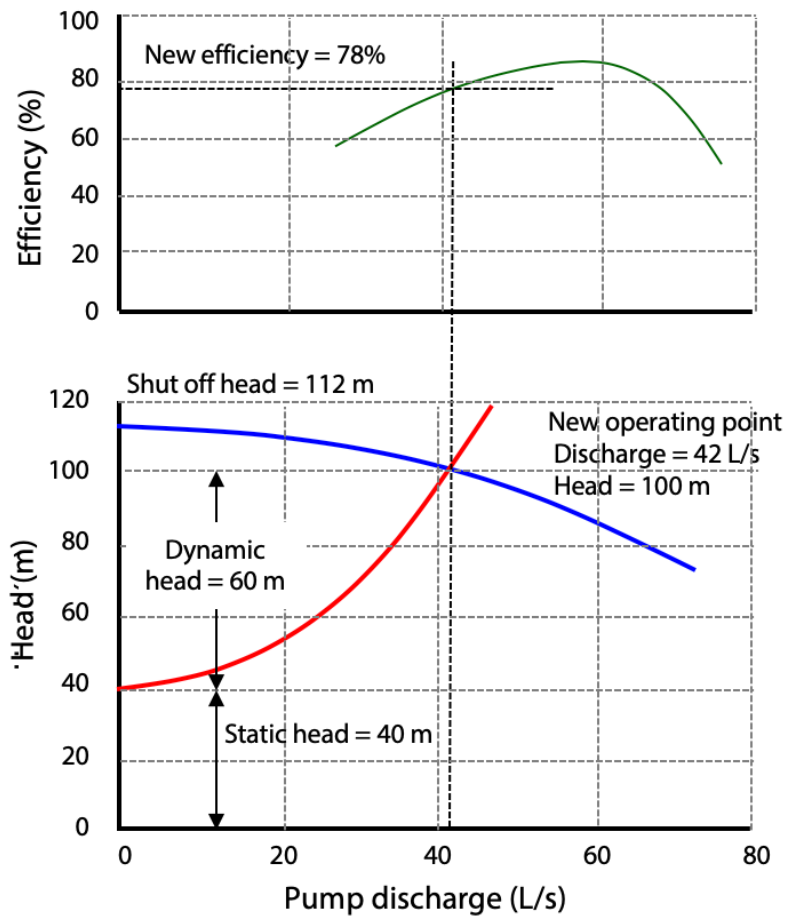

Figure S9.2 New system head curve
- The new system curve (Figure S9.2) will intersect the pump curve at 100 m total head, which corresponds to a discharge rate of about 42 L/s